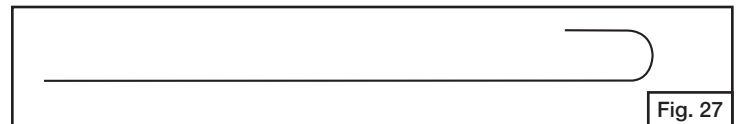

Fig. 27
1. To remove the above obstructions, use an accessory flexible venturi brush or bend a small hook on one end of a 20-inch long flexible wire such as the one shown in Fig. 27.
4. Look inside lower end of venturi tube for nests, webs or mud. If present, clean as noted in Step 1, Fig. 27.